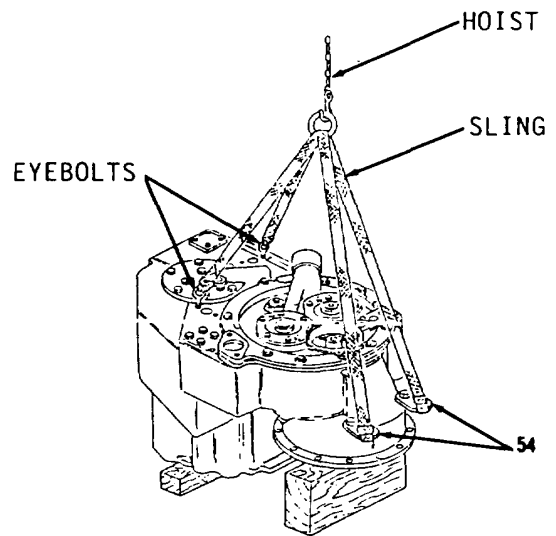
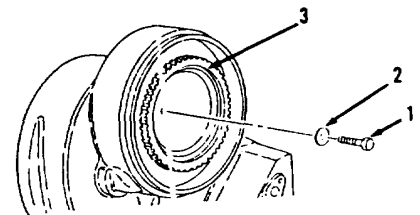

Figure 14-2.
Figure 14-1.
82. Install two 1/2-13NC forged eyebolts (Figure 14-2).
83. Attach hoist and sling to two 1/2-13NC forged eyebolts and lifting eyes (54).
87. Install coupling (3), retainer (2) and bolt (1, Figure 14-1). Tighten bolt (1) to 85 ft-lb torque.